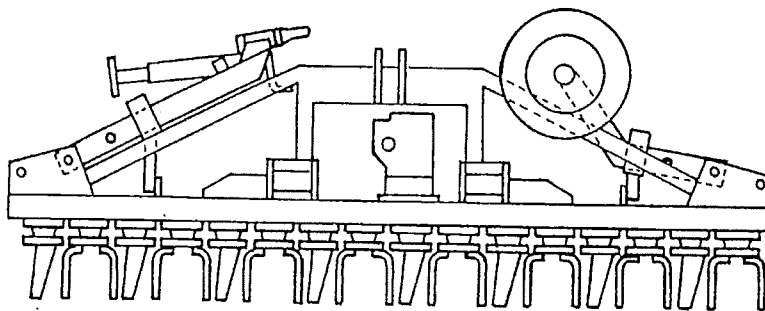
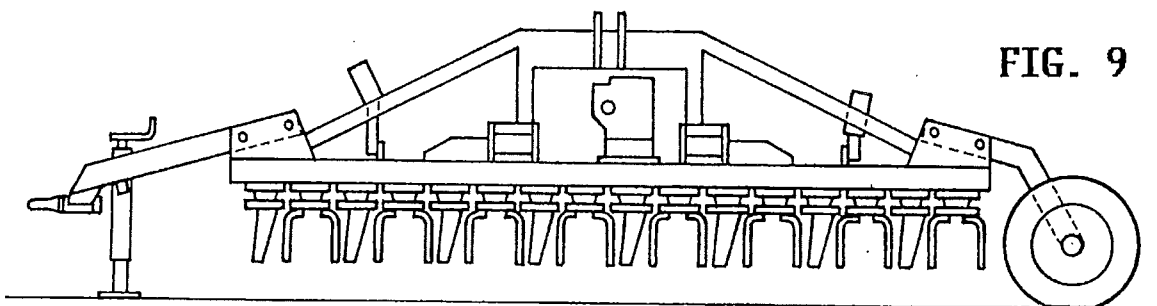

FIG. 8
FIG. 9
4.2.3. An easy-to-use and easy-to-install trailer and drawbar are available to transport the Magnum 3500, 4000, 4500, 5000, Kratos 3500-4000, Smart 3500-4000 series harrows. In working conditions the machine takes up a configuration similar to that shown on **fig.8**. The two wheels of the transport trailer and the corresponding axle, can be dismantled while working, if they are considered obstacle. In transport condition the machine takes up a configuration similar to that shown on **fig.9**.